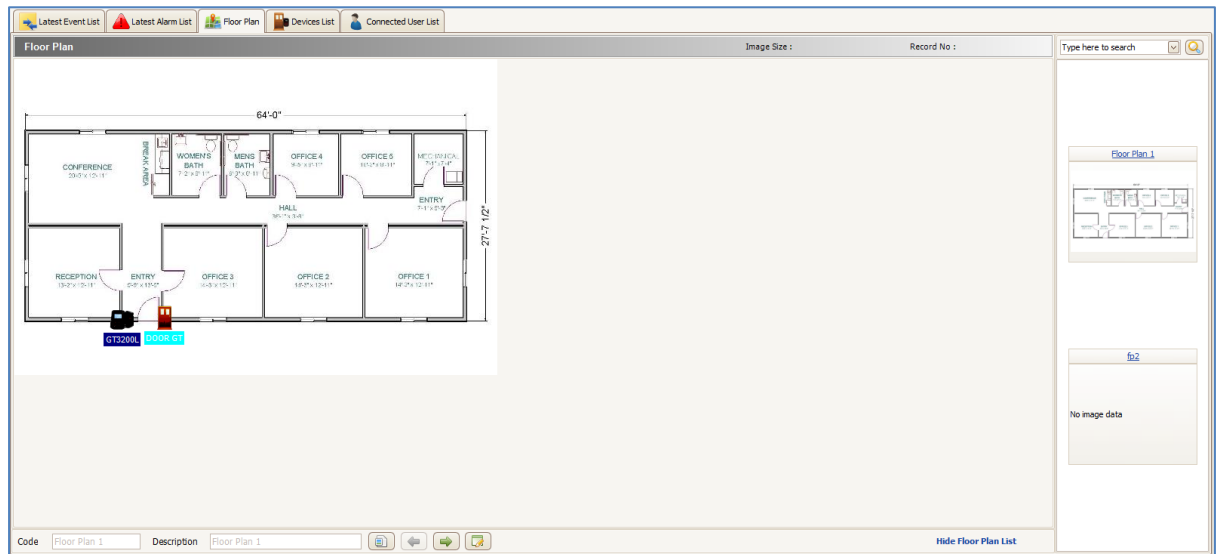

Figure 281 - Floor Plan
- Floor Plan shows the floor plan that had been loaded (Refer **Figure 281**).